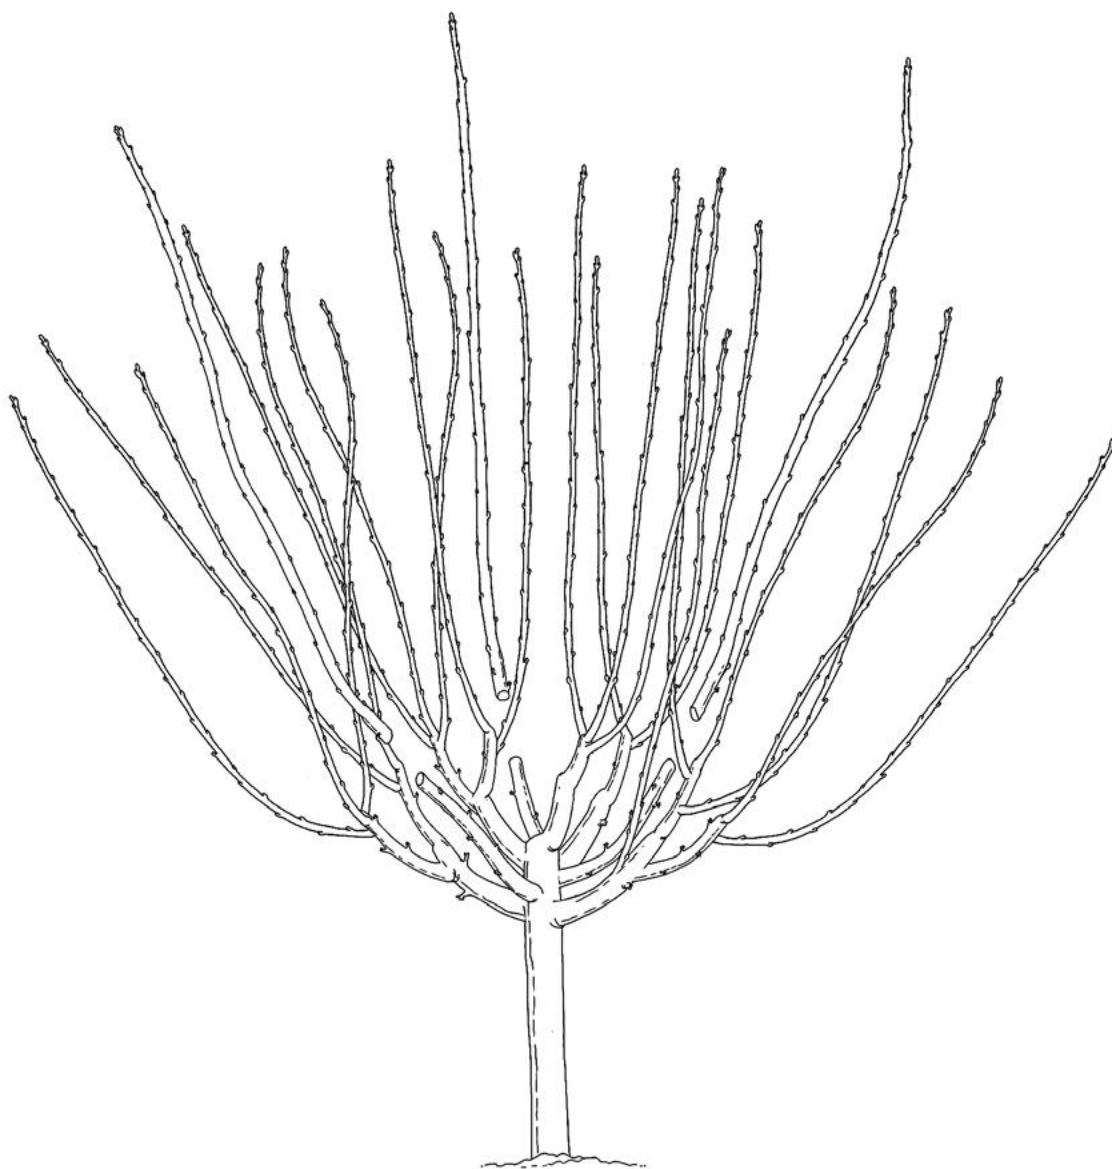

Figure 11
- Renewal is accomplished by removing the selected leaders back to a stub of approximately 10 inches with three to four buds. A replacement leader will grow from this stub to form new fruiting wood (Figure 11).